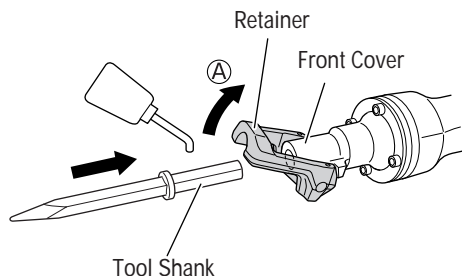

Fig. 4
- (1) Clean, then smear the accessory shank portion with grease or machine oil.
- (2) Move the retainer to open position (A) and seat the accessory, such as a bull point, a cutter, etc., in the hexagonal hole in the front cover (See Fig. 4).